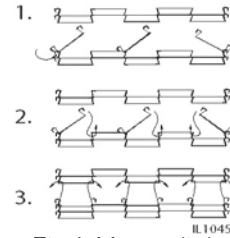

Fig 1. Master links removal & installation
3. Heavily soiled conveyor surfaces, models locate all 3 of the master links on the conveyor belt. Follow the step 1 in Fig 1, to remove all of the master links. Models that have no master links, to remove, unhook each end of one link and bring the two ends together and unthread. Once detached, re-hook onto itself so as not to get damaged.
9. 214 models, reinstall the previously removed master links as shown in step 2 & 3 in Fig 1. 210 models, unhook the last link of the conveyor, farthest away from you and re-thread through the other end and reconnect back onto itself.